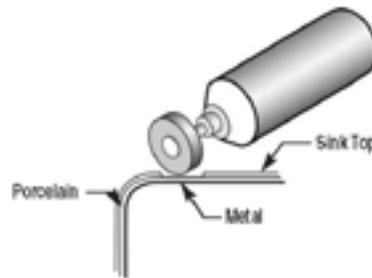

Figure 4: Grinding Wheel
B. Grind away a 1-inch diameter circle in the porcelain using a silicon/carbide wheel and high-speed grinder (See *Installation Tool List*), down to the metal surface of the sink. (See Figure 4).